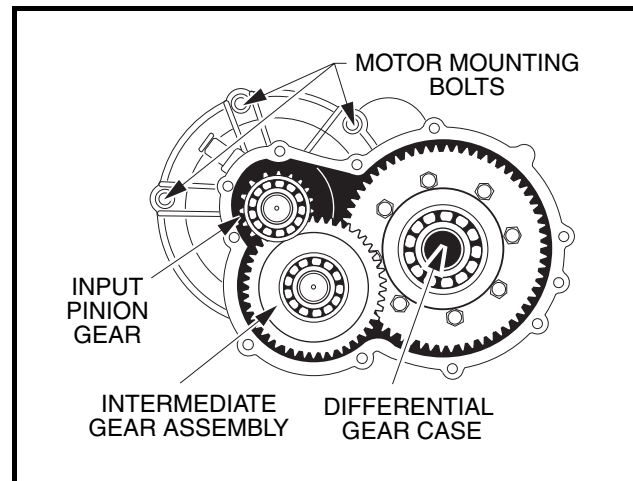
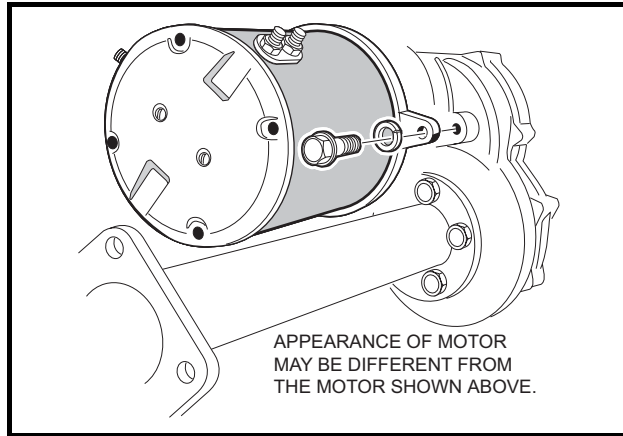

Figure 17-11 Motor Mounting Bolts
Figure 17-12 Motor Positioning Bolt
9. Remove the three motor mounting bolts (**Figure 17-11, Page 17-6**) and the motor positioning bolt (**Figure 17-12, Page 17-7**) mounting the motor to the transaxle. **See following CAUTION.**
4. Press new bearing (16) onto input pinion gear (17).
5. Apply grease to the lip of the new oil seal (10) and install the seal using a transaxle pinion seal tool (CCI P/N 1014161). The lip of the oil seal should face the inside of the transaxle housing. Make sure the seal is firmly seated.
6. Install the differential assembly, the intermediate gear assembly, and the input pinion gear simultaneously. Be sure all bearings are seated properly in the housing. Rotate the input shaft to check for smooth gear operation (Figure 17-11, Page 17-6).